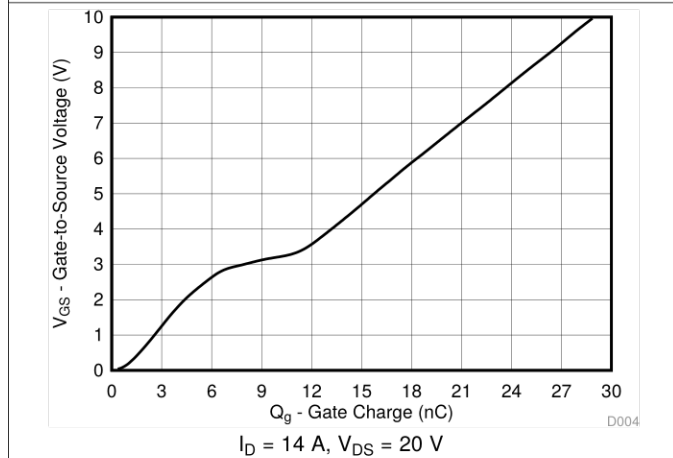

Figure 4. Gate Charge
- Changed Figure 4 in the *Typical MOSFET Characteristics* section to reflect updated gate charges